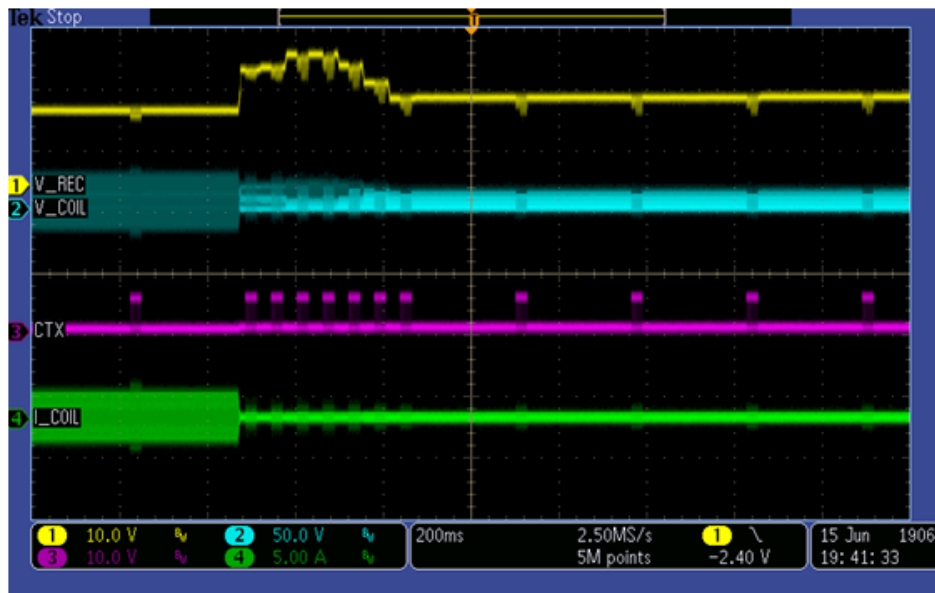

Figure 41. System response for reducing the load from 3 A to 0 A
4. System response measurement for reducing the load from 3 A to 0 A is shown in Figure 41.